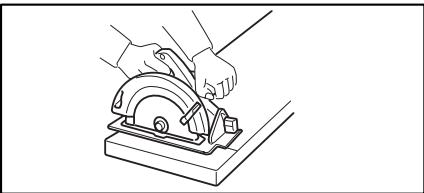
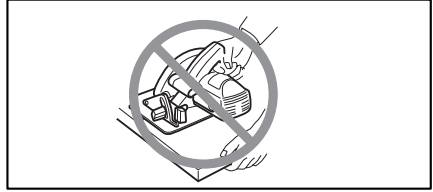

Fig. 5
Fig. 6
14. Place the wider portion of the tool base on that part of the workpiece which is solidly supported, not on the section that will fall off when the cut is made. As examples, Fig. 5 illustrates the RIGHT way to cut off the end of a board, and Fig. 6 the WRONG way. If the workpiece is short or small, clamp it down. **DO NOT TRY TO HOLD SHORT PIECES BY HAND!**